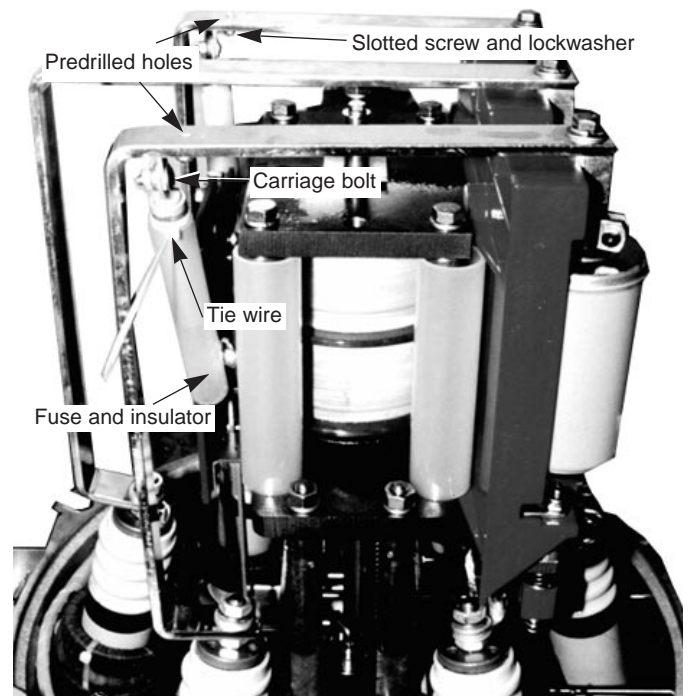

Figure 14.
5. Connect the fuse bracket to the bottom of the bus bar in the pre-drilled hole with the lockwasher and slotted screw furnished with the kit. Then tighten the carriage bolt on the bracket at the bottom of the fuse (refer to Figure 14).
6. Push the fuse insulator down (toward the bushings) as far as it will go. Place a wire tie (furnished with the kit) around the bottom of the fuse and tighten the tie (refer to Figure 14). This will protect the insulator from sliding down when the unit is replaced in the tank.